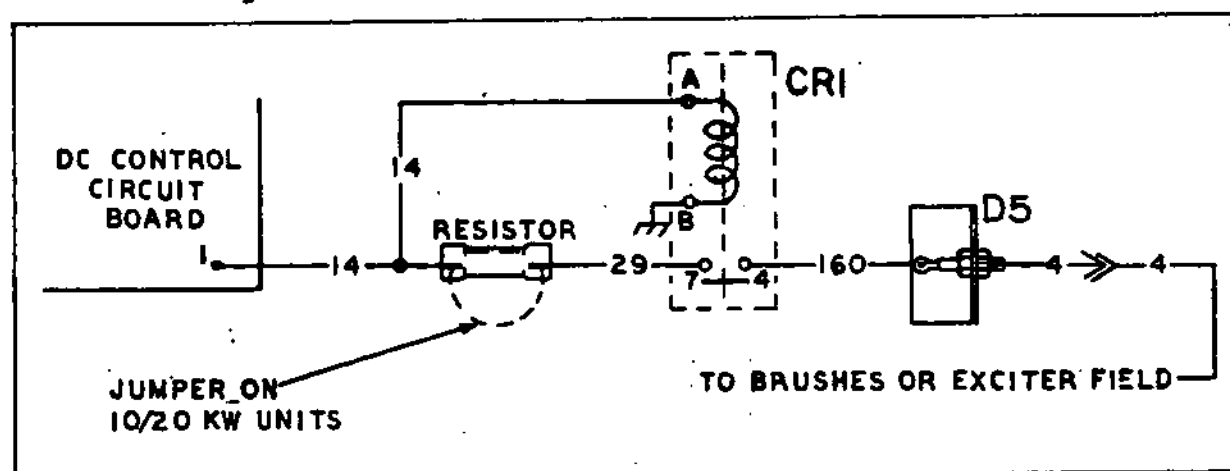

Figure 3.5-E. Generator Field Boost Circuit
3.5.9- TERMINAL BOARD TB2 (Option "C" Units Only) (Figure 3.5-A, 3.5-F)